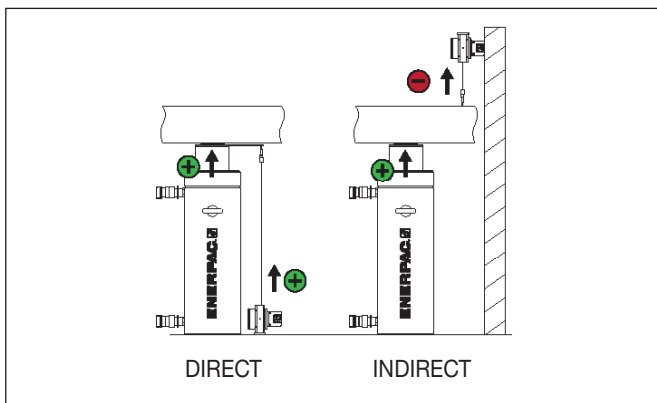

Figure 17: Direct and Indirect Layout
1. Position sensor scale: Depending on where the stroke sensor is placed, the user must select between direct or indirect movement. When the cylinder's plunger movement and the stroke sensor's wire are extending (positive movement), the movement is called direct. When the cylinder is extending but the stroke sensor wire is retracting (negative movement) the movement is called indirect. Refer to Figure 17 for further details.